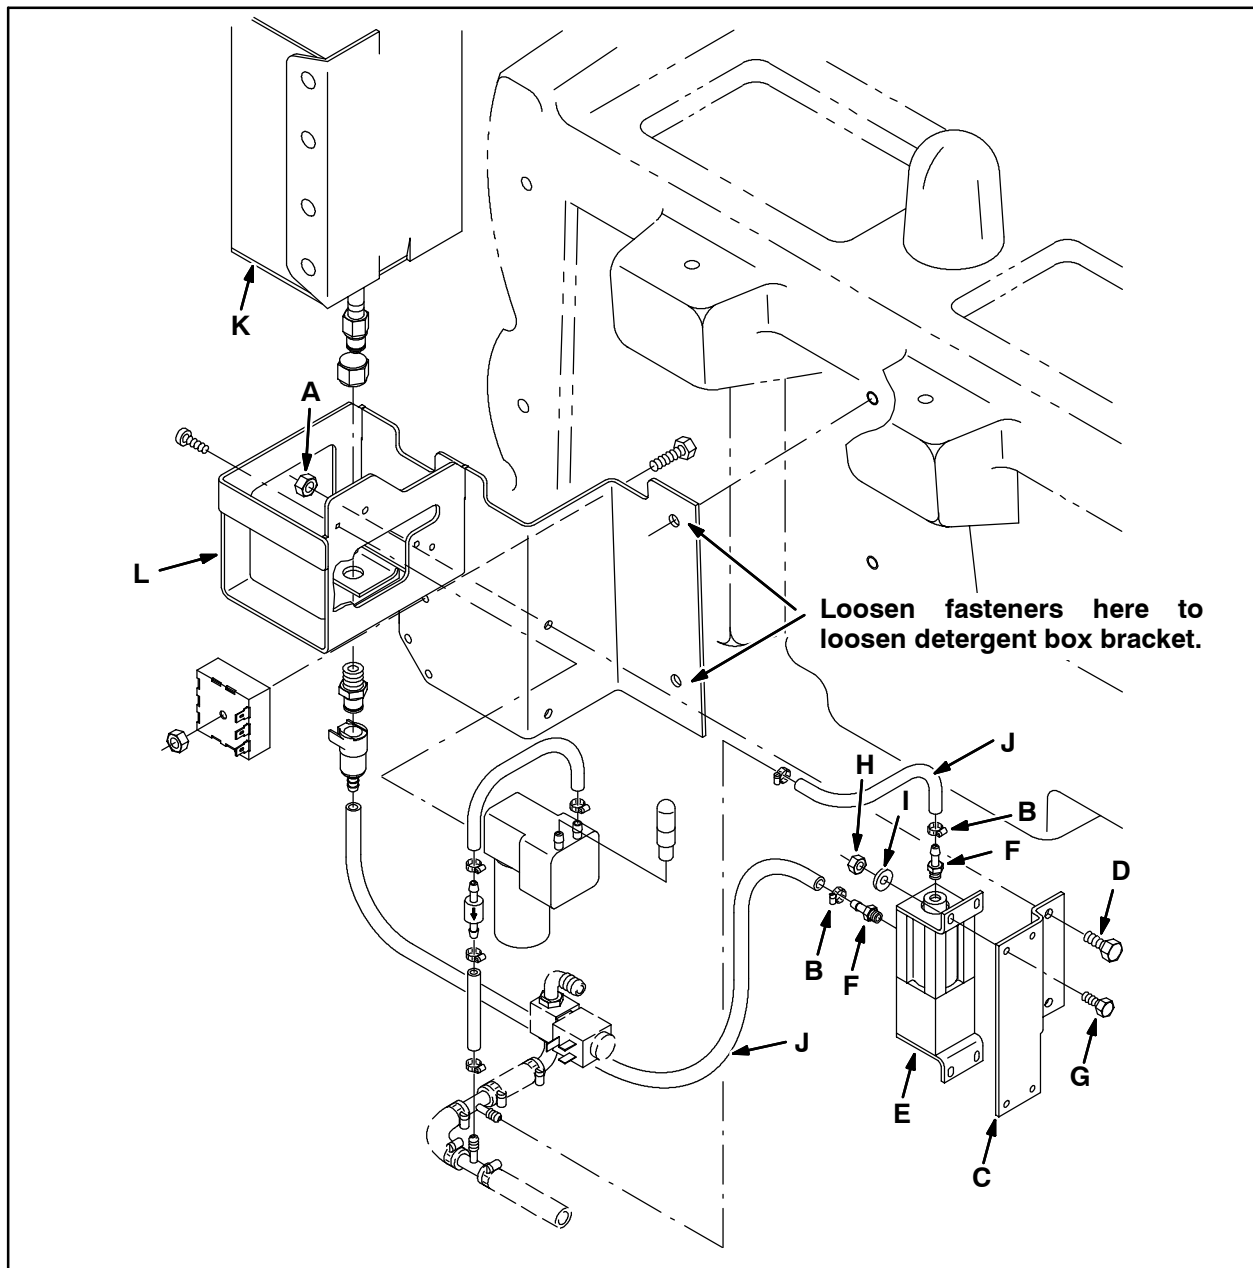

FIG. 1
3. Remove the FaST PAK (K) from the machine. Do not discard the FaST PAK, since it is reinstalled after the new detergent pump is installed.
4. If necessary, loosen the detergent box bracket (L) Refer to Fig. 1.
5. Remove the parts listed in the table below Fig. 1 from the machine. Refer to Fig. 1 for part locations.
6. Apply a light coat of thread sealant to the threads on both brass fittings (4).
7. Thread each brass fitting (4) from the previous step into a brass elbow fitting (3).